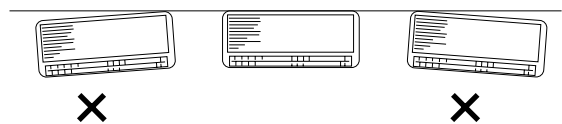

**Fig. 13a**
- Attach the rear panel to the wall with the 8 screws provided. (Fig. 13a or 13b)